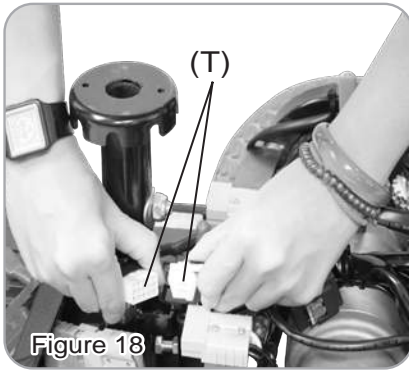

Figure 18
Disconnect front & rear section wire harness (T), then tear off battery straps (U) and battery terminals (V) to remove the batteries (b). (Figure.18 & 19)